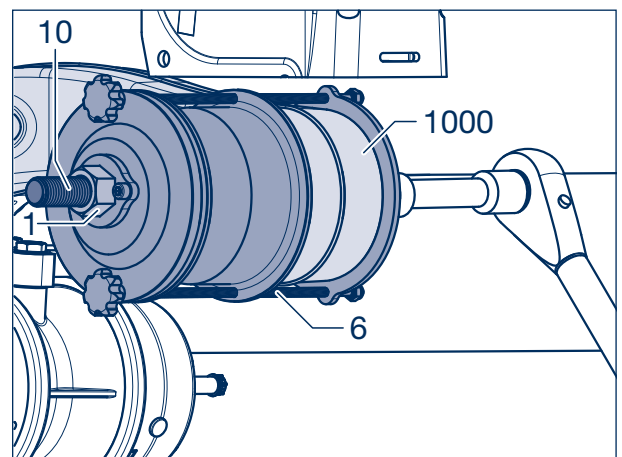

Figure 5
- [19] The threaded rods (6) must be loosened far enough so that the assembly can be slipped over the head of the trailing arm (1000) from the front. Alignment funnel (5) sits snugly at the ring (7).
- [20] Mount the installation device so that the centring of the puller plate (4) is positioned in the trailing arm eye.
- [21] Tighten the threaded rods (6) gently.
- [22] Generously coat the tension rod (10) and nut (1, SW 36, see Fig. 5) with a heavy-duty lubricating and mounting grease (e.g. STABURAGS NBU30 PTM).
- [23] Attach the washers (9) and the installation sleeve (8) to the tension rod.
- [24] Insert the rubber-steel bush (1005) in the alignment funnel (5) with the arrow pointing up.